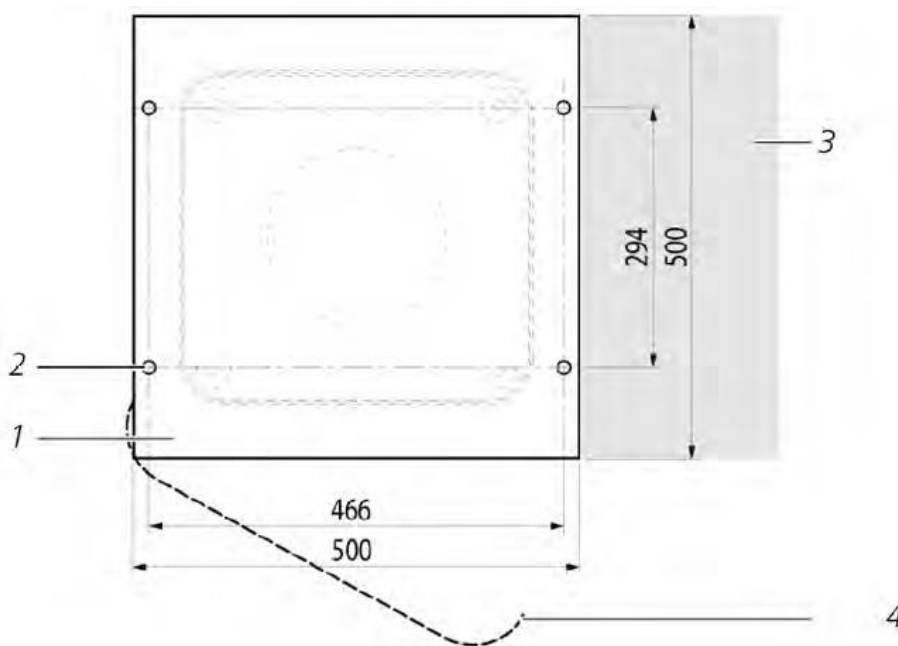

Figure 4 Drilling template.
The CHM 15k requires an installation area of 50 x 50 cm. It must be stable, firmly installed and mounted on an adequately sized concrete foundation. The inclination of the installation surface must not exceed 5 mm/m. Before installing the CHM 15k, holes must be drilled and dowels inserted in the concrete foundation (\varnothing 12 mm, 4 dowels are included in the delivery), in accordance with the drilling template (see Figure 4). It is important to pay attention to the opening direction of the exterior door to the operator's connection box.
- ⇒ Position the CHM 15k in the installation position (vertical) on the concrete foundation. It is important to pay attention to the position of the exterior door in relation to the operator's connection box (see Figure 4)